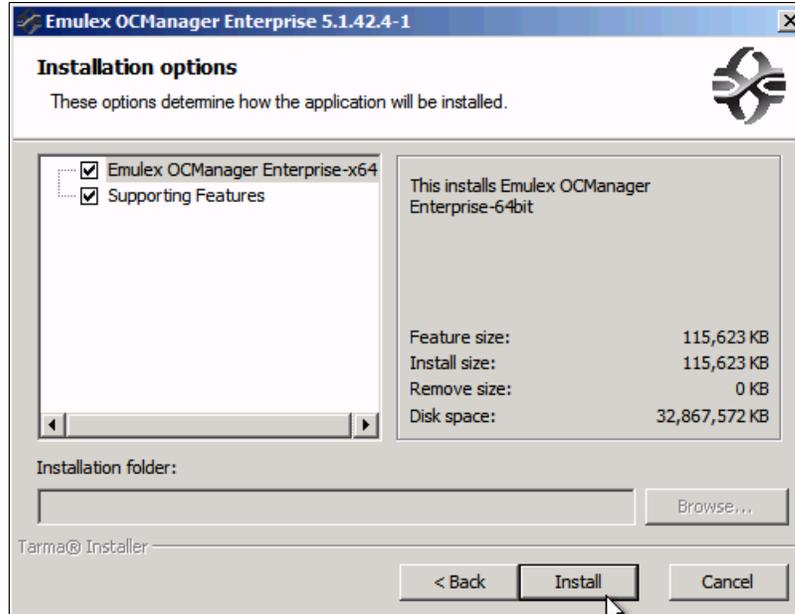

Figure 5-30 Emulex OCManager Installation options window
5. In the Installation options window (Figure 5-30), click **Install**. The installation process begins.